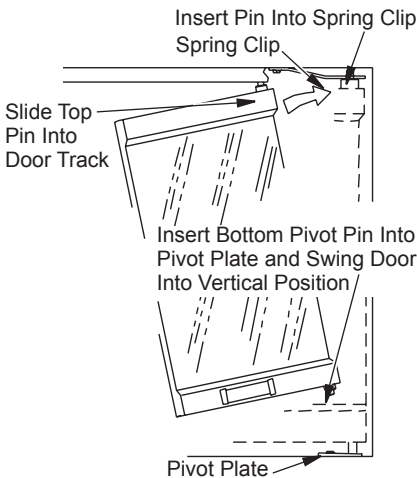

Figure 31 - Installing Optional Glass Door
2. With handle facing center of firebox opening, insert lower pivot pin on glass door panel into hole in pivot plate on bottom edge of fireplace opening (see Figure 31, page 18).
4. Tilt glass assembly fully vertical until outer pivot pin snaps into mounting hole in upper spring clip (see Figure 31).